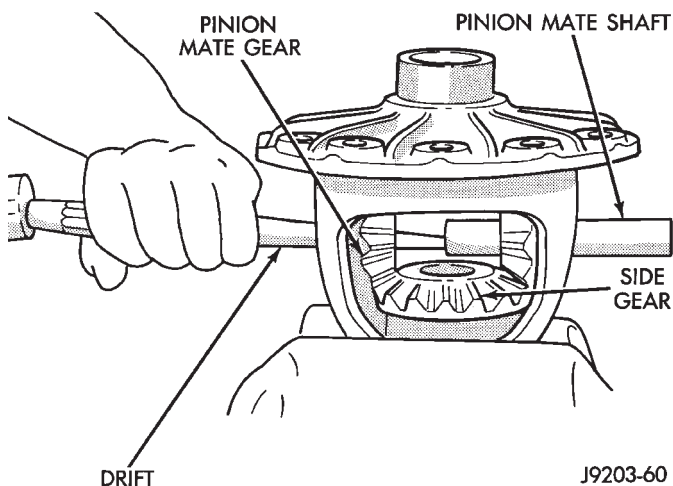

Fig. 35 Mate Shaft Removal
(5) Remove the mate shaft with a drift and hammer (Fig. 35).